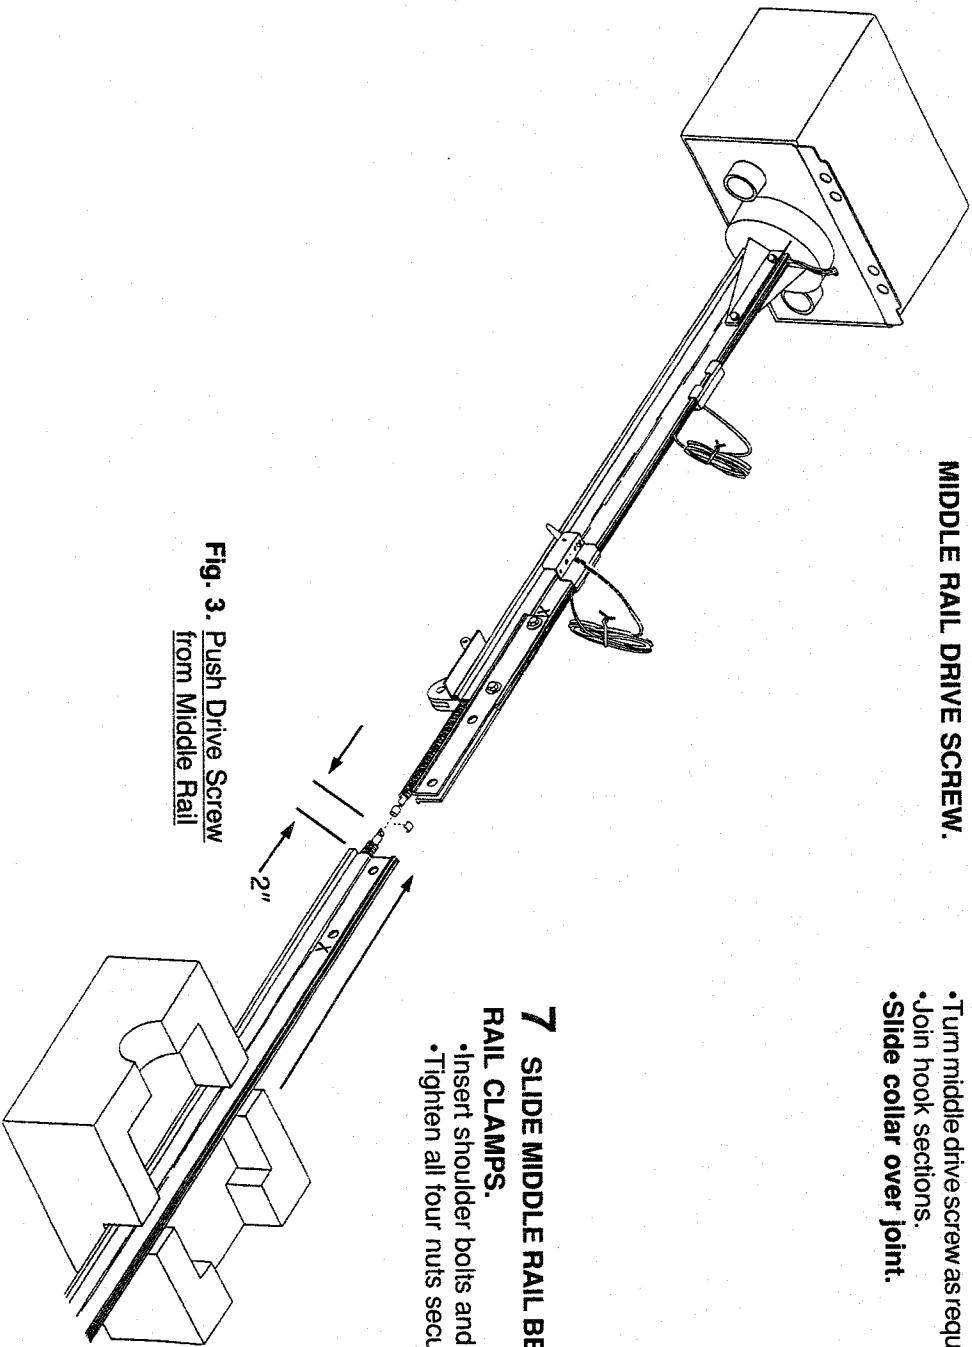

Fig. 3. Push Drive Screw from Middle Rail
**3 PUSH DRIVE SCREW FROM MIDDLE RAIL TOWARD POWER UNIT RAIL. (Fig. 3)**